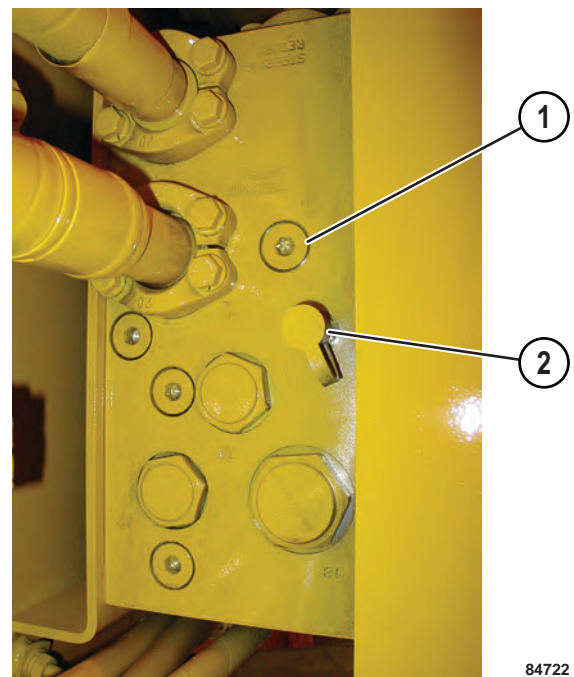

FIGURE 10-1. BLEDDOWN MANIFOLD
The hose material can be 1/4" dia. SAE 100R2, which has 34 474kPa (5000 psi) rating. A needle valve will allow simple opening/closing, and must be rated for 27 579 kPa (4000 psi) or above. The hose assembly can consist of two 1/4" dia. hoses connected to a needle valve. The opposite ends of the hoses can be connected as described below. The length of the hoses is not critical and can be selected to provide the best accessibility to the needle valve. Refer to Figure 10-1 and 10-2 for port locations.
- b. Remove the plug from #10SAE boss port (1, Figure 10-1) located near bleddown manifold port TP3 (2). This port does not have an identification stamping. Port TP3 is shown for reference. This port has the same pressure as bleddown manifold ports Steering Supply Port and ACC2 Port (downstream steering accumulator), and will allow both steering accumulators to bleed down when the needle valve is opened.